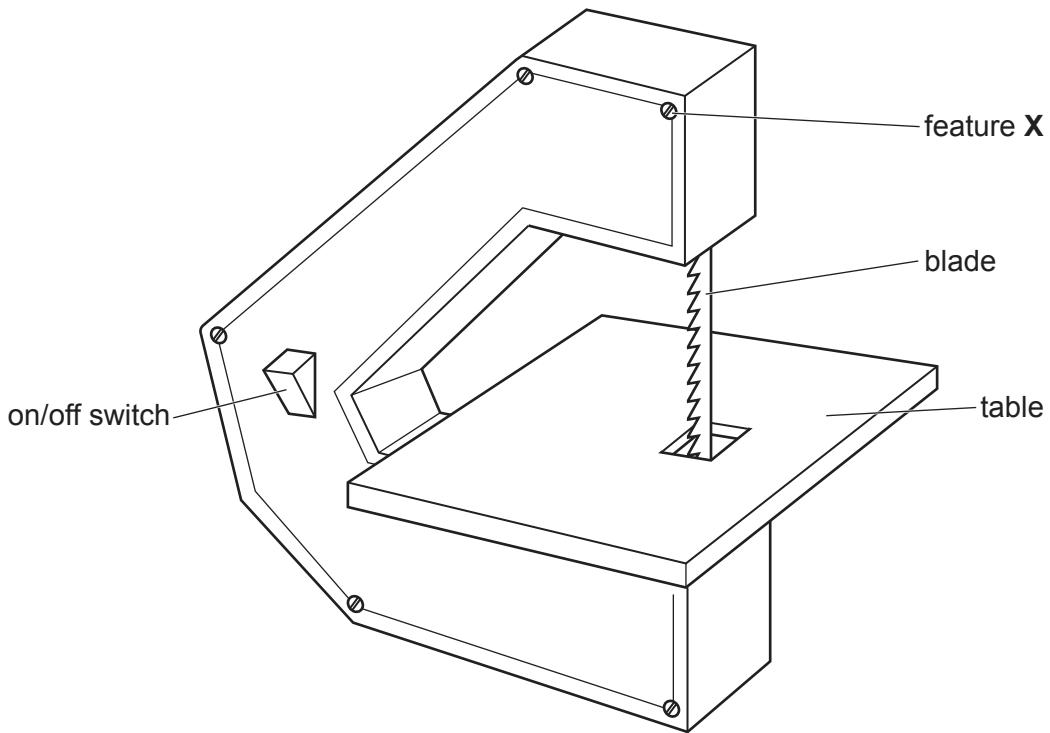

Fig. 6.1
- 6 Fig. 6.1 shows an incomplete design for a bench mounted bandsaw.